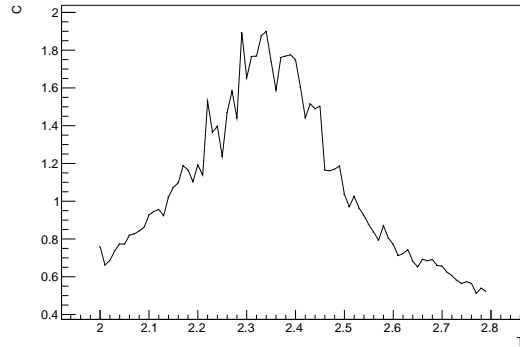

Figure 1: The relationship between C and T is shown above. The critical temperature T_C is estimated by the position of maximum C , which is $T_C \approx 2.34$.
In each temperature T scan, we calculate the mean value and fluctuation of magnetization per spin (M) and energy per spin (E). Then, the specific energy can also be calculated from the energy fluctuation $C = \langle \Delta E^2 \rangle / k_B T^2$. The peak position of C indicates the critical temperature T_C , so we can get the accurate T_C of this specific configuration. (Figure 1 gives $T_C \approx 2.34$.)